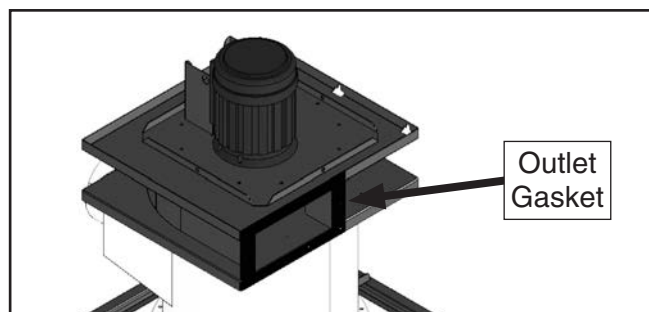
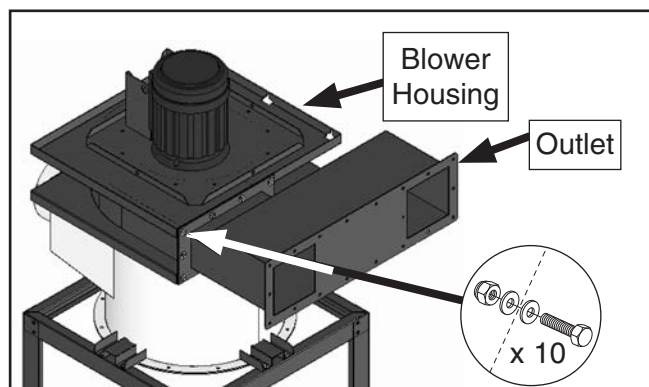

Figure 16. Outlet gasket positioned on blower housing opening.
Figure 17. Blower housing and outlet attached.
16. Position outlet gasket around opening on blower housing (see **Figure 16**), then attach outlet to blower housing (see **Figure 17**) with (10) $\frac{3}{8}$ "-16 x 1" hex bolts, (20) $\frac{3}{8}$ " flat washers, and (10) $\frac{3}{8}$ "-16 lock nuts.